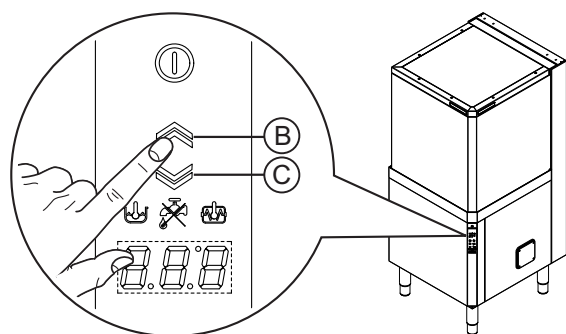

Figure 22 Automatic hood opening/closing
- **With automatic machines, press the button "B" to open the hood and button "C" (Figure 22) to close it.**